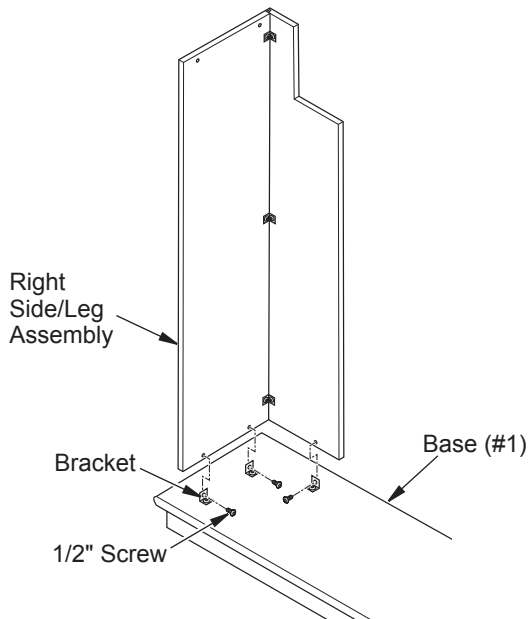

Figure 2 - Leg Assembly to Base
3. Attach 6 brackets to base (#1) at threaded hole locations using 1/2" screws leaving screws loose. Face brackets toward outside (see Figure 2).